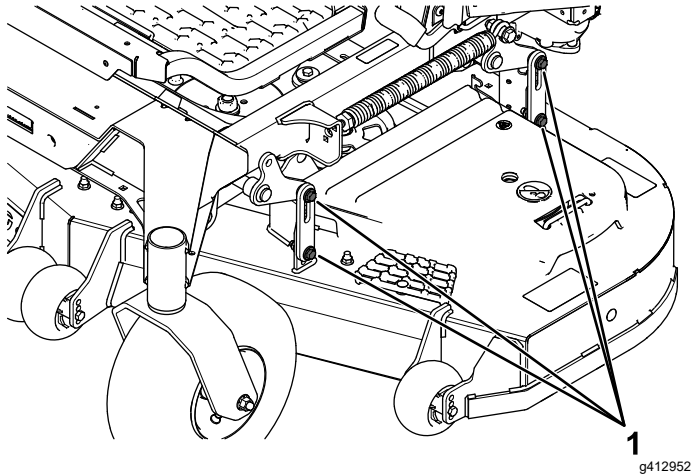

Figure 87
16. Loosen the bolts (Figure 87) on all 4 corners and ensure that the mower deck is sitting securely on all 4 blocks.